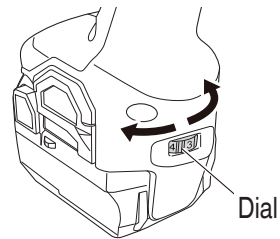

Fig. 14
- Set the mode and dial according to work application. (Fig. 14)